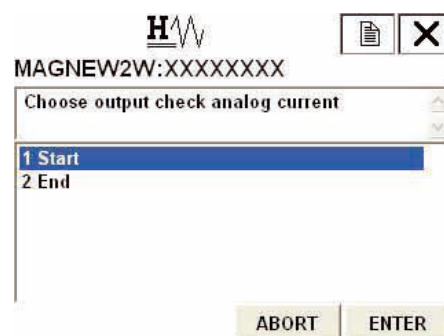

Figure 7-80
2. Figure 7-80 will then appear. Choose START to start fixed value of analog current output, and then press F4 (ENTER)